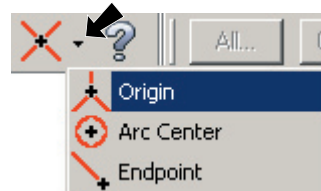

Fig. 2
Step 5. Click the down arrow in the Auto Cursor ribbon bar and click Origin  to place the circle, Fig. 2.